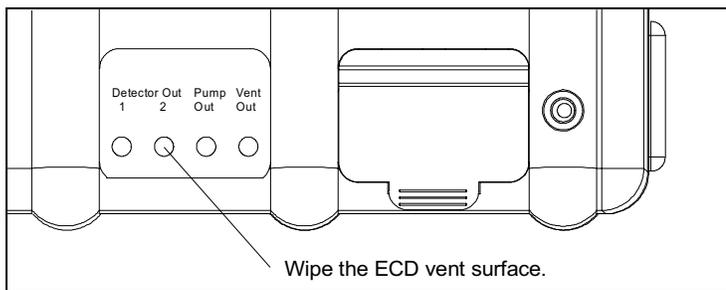

Figure 17 ECD Vent
4. Wipe the vent fitting on the top panel of the Voyager, as shown in Figure 17.